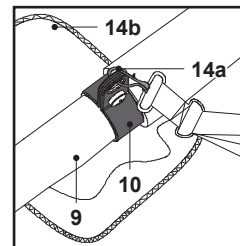

Fig. 13
5. Lock the harness on the suspension sleeve (10). Make sure the protection pad (14b) runs under the upper pole (9) (Fig. 13).